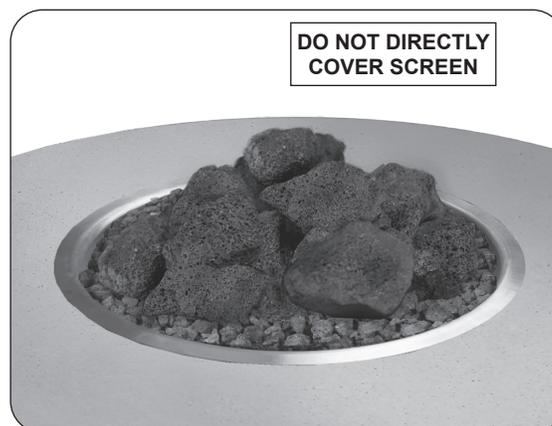

Fig. 42-2 Lava stones option
2. Pour the lava stones evenly into the burner area (see Fig. 42-2). The stones may form a mound. Ensure lava stones are not sitting on top of screen. Store any excess media in a safe location.